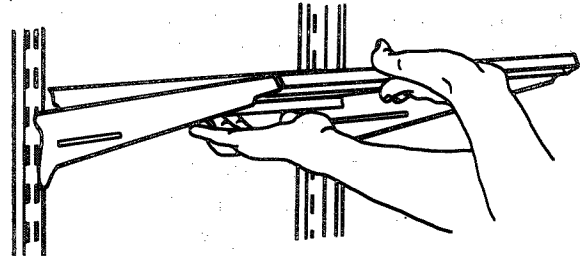

Figure 29
- To remove "cantilever" shelves, tap upward at back of shelf, near the metal track. See Figure 29. This will loosen shelf hooks. Lift shelf and pull out.